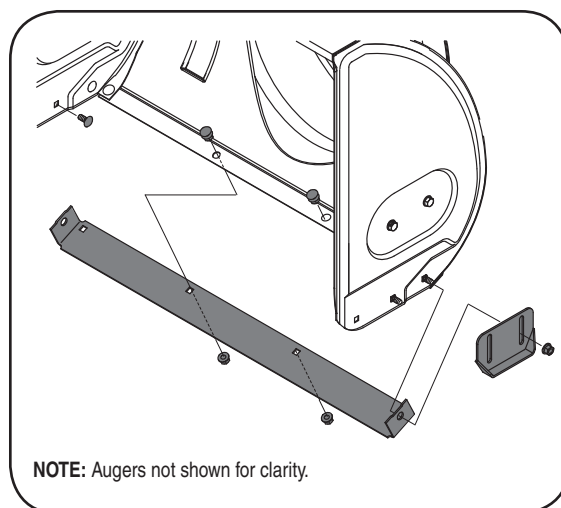

Figure 9
2. Reassemble new skid shoes with the four carriage bolts (two on each side) and hex flange nuts. Refer to Figure 9.
- The augers are secured to the spiral shaft with two shear pins and cotter pins. If the auger should strike a foreign object or ice jam, the snow thrower is designed so that the pins may shear. Refer to Figure 9.